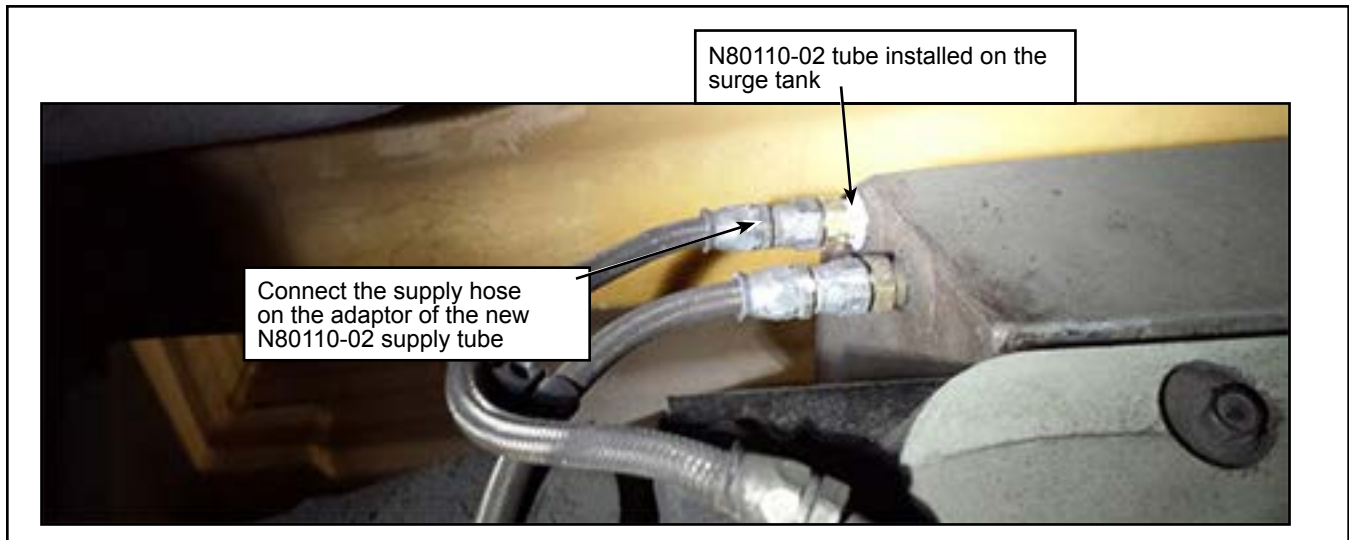

Figure 4 - Supply Tube N80110-02 Installed on Surge Tank
- 1.6. Install the new N80110-02 supply tube on the surge tank and connect the supply hose on the adaptor of the new supply tube. See Figure 4.